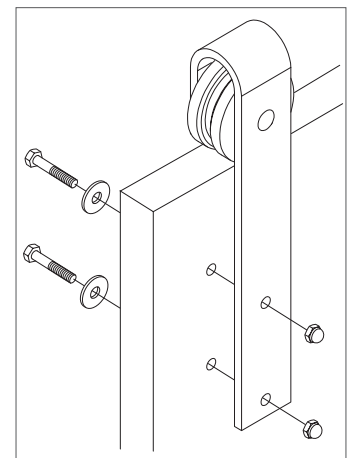

Figure 6
9. Install the hangers to the front of the door using hex bolts, washers, and acorn nuts (provided) (figure 6).